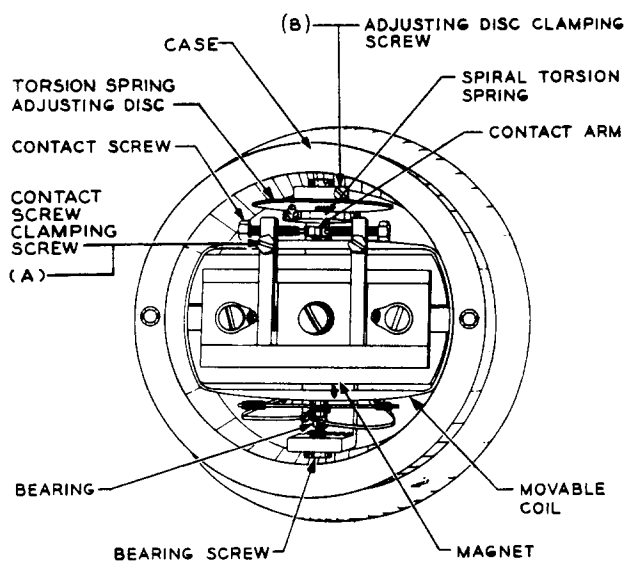
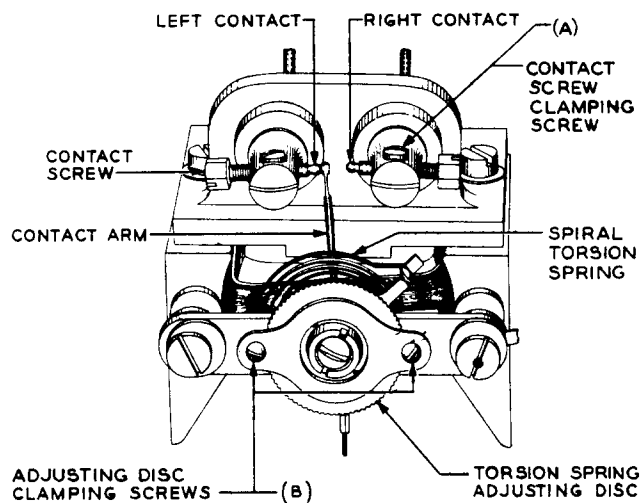

Fig. 3 — Western Electric 260 Type — Cover Removed (earlier relays having contact screw clamping screws)
Fig. 4 — Contact Assembly — Weston Models (earlier relays having contact screw clamping screws)
2.02 Tightness of Contact Screw Clamping Screws (Western Electric 260 type and Weston models): Fig. 3(A), Fig. 4(A), Fig. 9(A), and 10(A) — The contact screw clamping screws shall be sufficiently tight to hold the contact screws in their adjusted position.